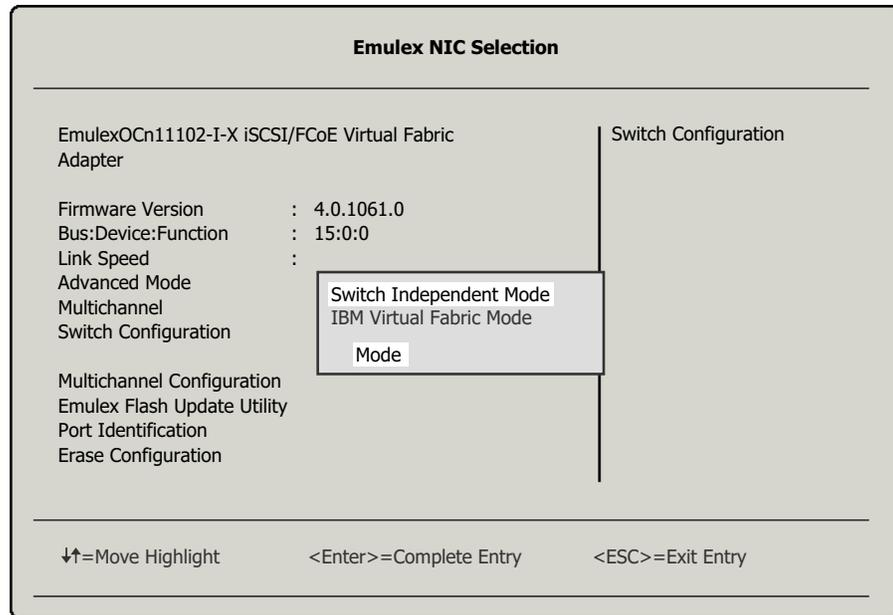

Figure 5-4 Switch Configuration mode selection
7. With Multichannel enabled, select **Switch Configuration**. In this example, of using IBM Virtual Fabric Mode, two options are available: Switch Independent Mode or IBM Virtual Fabric Mode (Figure 5-4).